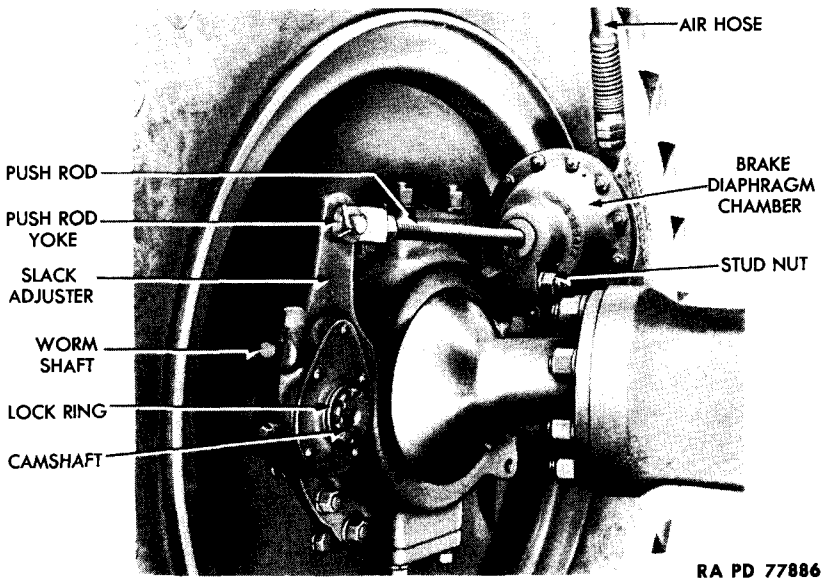

Figure 70 – Front Brake Diaphragm Chamber and Slack Adjuster Installed
(1) **DESCRIPTION** (figs. 70 and 74). One brake diaphragm is attached to vehicle adjacent to each of the four wheels. Diaphragms convert air pressure to mechanical motion in applying brakes. Depressing the brake pedal admits air pressure to each diaphragm chamber, and pressure causes diaphragm motion which is transmitted to brake cam by means of a push rod and slack adjuster. When brake pedal is released, pressure is exhausted from the chamber, and brakes are then released by a spring which returns slack adjuster, push rod, and diaphragm to their original position.
(1) **DISCONNECT SLACK ADJUSTER** (figs. 70 and 74). Remove cotter pin and clevis pin which connect slack adjuster to push rod yoke.
(2) **DISCONNECT AIR HOSE** (figs. 70 and 74). Screw hose nut from fitting on chamber.
(3) **DETACH CHAMBER** (figs. 70 and 74). Remove stud nut and lock washer which secures chamber at front wheel brake, or remove the four nuts, lock washers, and bolts which secure chamber at rear wheel brake. Lift chamber from vehicle.
(1) **ATTACH CHAMBER** (figs. 70 and 74). Position chamber on backing plate or on bracket. Install stud nut which secures chamber at front wheel brake, or the four bolts, lock washers, and nuts which secure chamber at rear wheel brake.
(2) **CONNECT AIR HOSE** (figs. 70 and 74). Screw air hose to fitting on chamber.
(3) **CONNECT SLACK ADJUSTER** (figs. 70 and 74). Position slack adjuster to push rod yoke, and secure with the clevis pin and cotter pin.
(1) **DESCRIPTION** (figs. 70 and 74). One slack adjuster fits on the spline on the shaft of each brake cam. These are special levers which connect the brake diaphragm chamber push rods to the brake camshafts.
(5) **ADJUST BRAKES AND RECORD PUSH ROD TRAVEL (FIRST ADJUSTMENT ONLY)** (figs. 70 and 74). Jack up each wheel, and turn slack adjuster worm shaft until brake shoes are tight against drum. Back off worm shaft until wheel is free, and insert feeler gage between toe-end of shoe and drum. Turn worm shaft until 0.008- to 0.010-inch clearance is obtained; then apply brakes, and measure brake diaphragm push rod travel. Record measurement for future use in checking (step (2) above) and adjusting (step (6) below) brakes. **NOTE:** *If adjustment is correct, push rod travel will be same for both wheels on an axle. Dimensions will be about $\frac{5}{8}$ inch on front brakes and about $\frac{7}{8}$ inch on rear brakes.*
(6) **ADJUST BRAKES (ALL SUBSEQUENT ADJUSTMENTS)** (figs. 70 and 74). Turn slack adjuster worm shaft until brake diaphragm cham-
c. Removal (figs. 70 and 74). Use a pointed instrument to mark relative positions of slack adjuster and camshaft. Remove cotter pin and clevis pin which secure push rod to slack adjuster. On front slack adjuster, pry lock ring from brake camshaft. On rear slack adjuster, remove attaching screw and special lock washer. Tap adjuster from shaft.
d. Installation (figs. 70 and 74). Position slack adjuster on protruding end of brake camshaft as originally installed, and note marks made before removal. On front of slack adjuster, pry lock ring into position at end of shaft. On rear slack adjuster, install special lock washer and attaching screw. Position push rod yoke to slack adjuster, and install clevis pin and cotter pin which attach rod and adjuster.